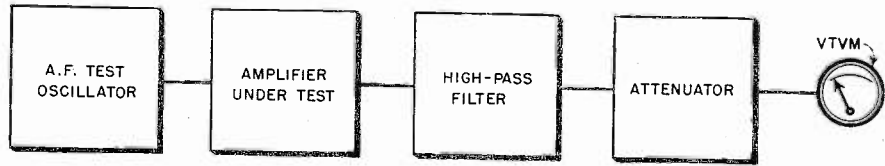

Fig. 7
- A very efficient method of measuring total harmonic content in the signal delivered by an audio-frequency amplifier makes use of the arrangement employed in the distortion and noise meters found in broadcast stations. (See Figure 7).